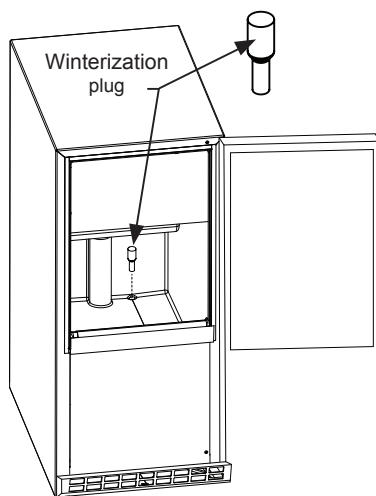

Figure 5
13. Install the winterization plug in the water drain hole inside the ice bin (Figure 5).